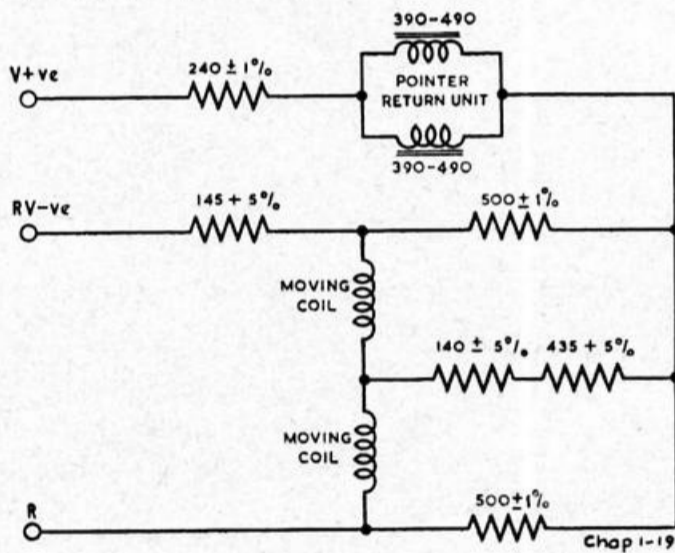

Fig. 2. Circuit diagram
2. The circuit diagram is shown in fig. 2, and connections are made via three terminal screws V+ve, RV-ve and R.